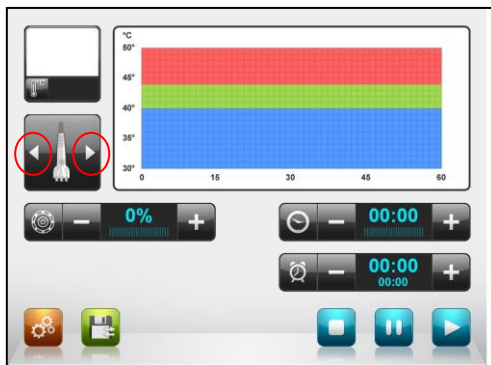

Figure 5-2: Treatment Screen
The **Treatment** Screen is the system main screen (See Figure 5-2). Treatment is initiated on this screen. The **Tools** screen is accessed from the Treatment screen.
1. Select the desired Applicator (LB1, LF1, LB2 or LF2), according to treatment area, by pressing on one of the arrows, forward or backwards (See Figures 5-2 circled in red).